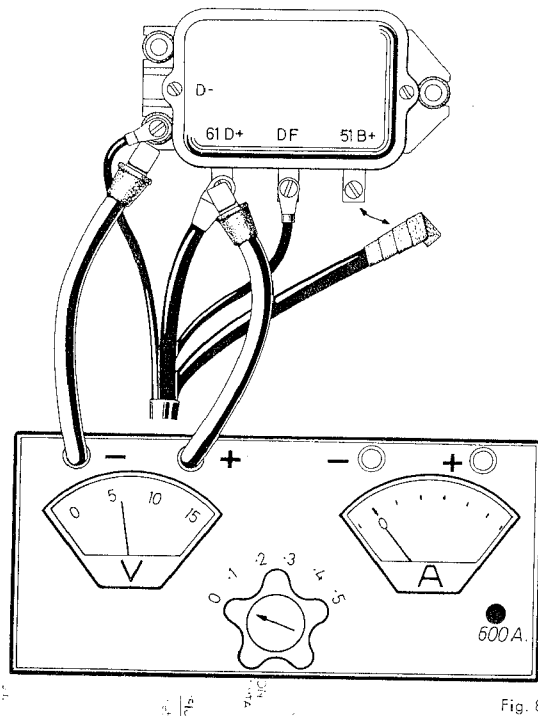

Fig. 8
2. Disconnect battery lead from terminal "51 B+" at the regulator and insulate end with tape. Connect the positive lead of the voltmeter to terminal "61 D+" and the negative lead to ground on the regulator base plate (Fig. 8).